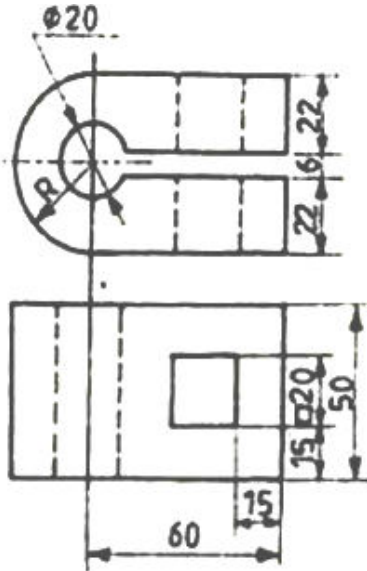

Figure 1
3. Two views of a casting are shown in figure 1. Draw the isometric projection of the casting (all dimensions are in mm)